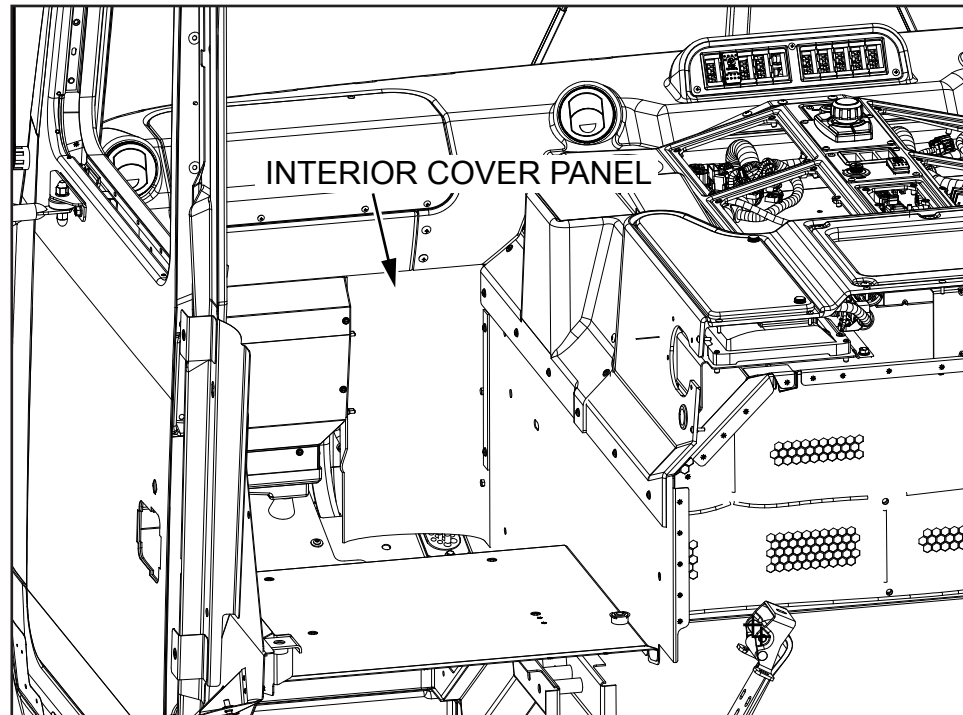

Figure 3, ACX Right Side Drive
4. For ACX right side drive units, remove the interior cover panel and the fasteners and set aside for reinstallation (see Figure 3).